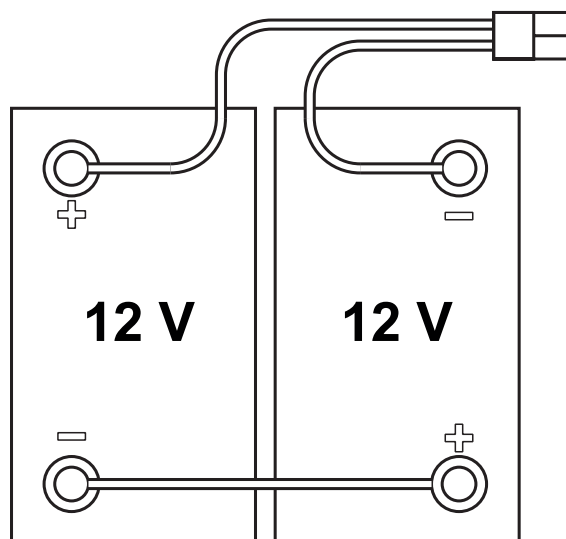

Figure 1
1. If equipped, remove the ignition key (41).
2. Disconnect the battery connector (8).
3. Lift the cover (34) and check that the recovery tank (33) is empty; if not, empty it using the drain hose (12).
4. Close the cover (34).
5. Grasp the handle (16) and carefully lift the tank (33).
7. Route and install the battery cables as shown in the diagram in Figure 1, then tighten the nut on each battery terminal.
8. Place the protection cap on each terminal, then connect the battery connector (8).
9. Grasp the handle (16) and carefully lower the tank (33).